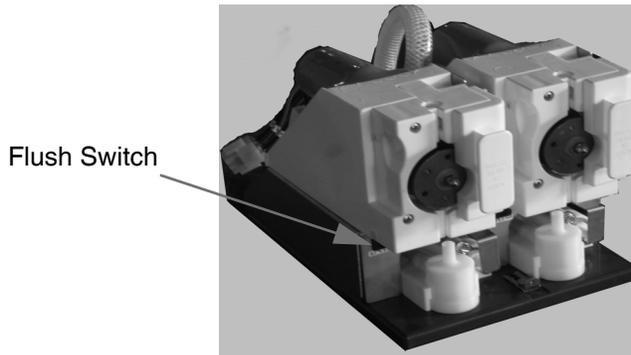

Figure 3. Dispense/Flush Switch Location
1. Open the cabinet door and switch on the flush button. see Figure 3.